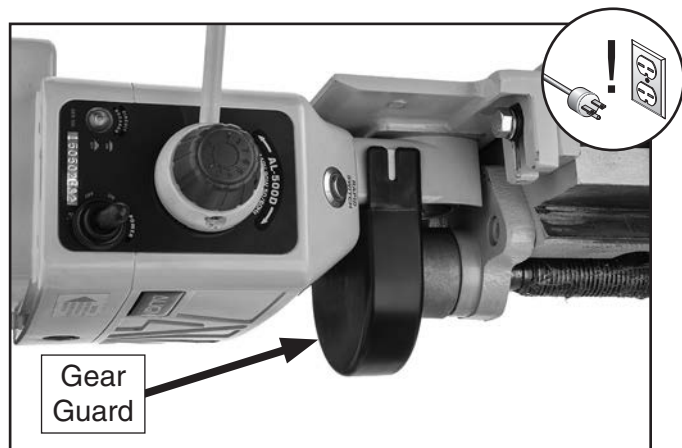

Figure 71. Location of gear guard.
2. Remove gear guard (see **Figure 71**).